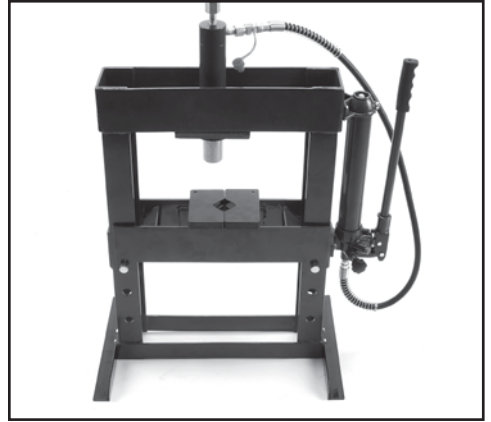

FIG.14
9.2 POSITIONING - FIGS. 14 - 16